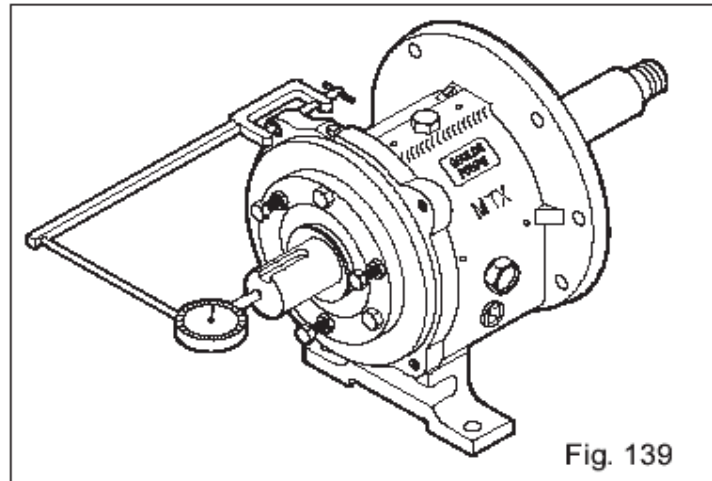

Fig. 139
1. Support frame assembly in horizontal position as shown in (Fig. 139).